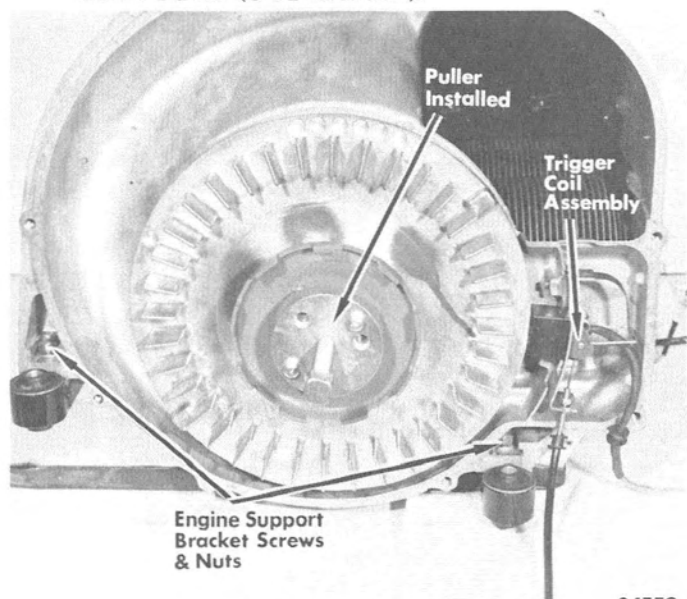

Figure 2. Removing Fan Assembly
2. Remove fan assembly as follows: (Figure 2)
4. Remove fasteners, engine support to fan housing. (Figure 2)